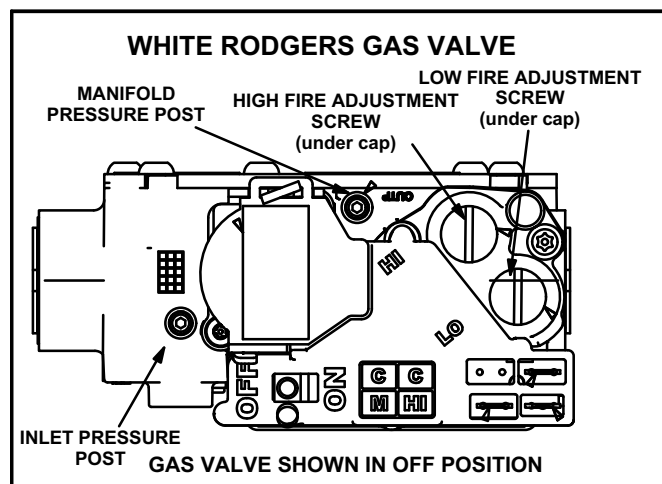

FIGURE 3
- 2 - Remove the access panel. Move the automatic gas valve switch to **OFF**. See figure 3.
- 6 - Move the switch on the gas valve to **OFF**. Do not force the switch. See figure 3.
An inlet pressure post located on the gas valve provides access to the supply pressure. See figure 3. Back out the 3/32 hex screw one turn, connect a piece of 5/16 tubing and connect to a manometer to measure supply pressure. Check supply pressure with unit on high fire. On multiple unit installations, check each unit separately and with other units operating. See table 2 for supply line pressure. Following supply pressure test, shut off unit, remove manometer and tighten pressure post hex screw.
A manifold pressure post located on the gas valve provides access to the manifold pressure. See figure 3. Back out the 3/32 hex screw one turn, connect a piece of 5/16 tubing and connect to a manometer to measure manifold pressure.
- 4 - After allowing unit to stabilize for 5 minutes, record low fire manifold pressure and compare to value given in table 2. If necessary, make adjustment. Figure 3 shows location of low fire adjustment screw.
- 5 - Repeat on high fire and compare to value given in table 2. If necessary, make adjustment. Figure 3 shows location of high fire adjustment screw.